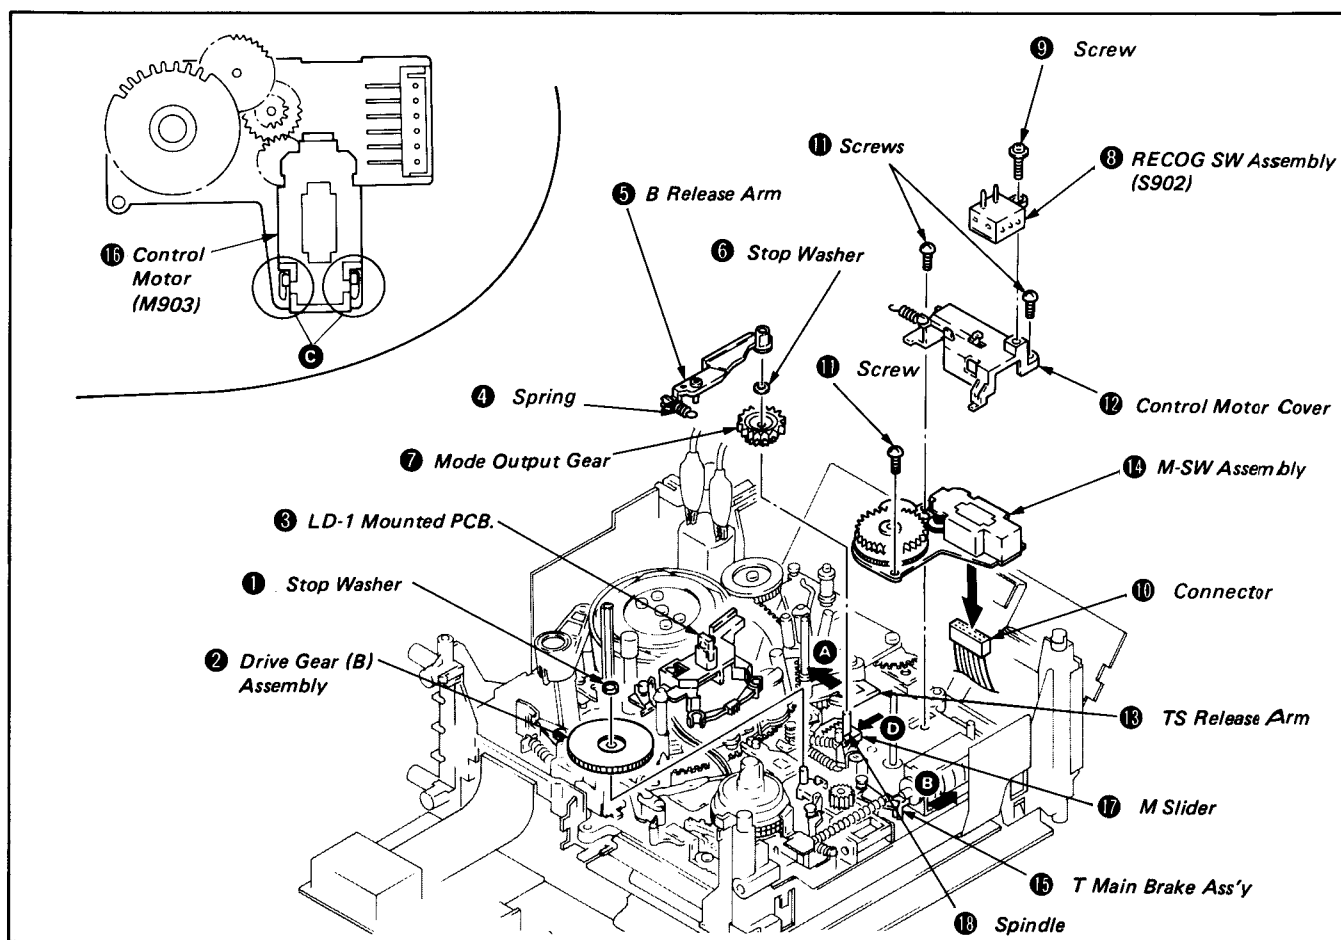
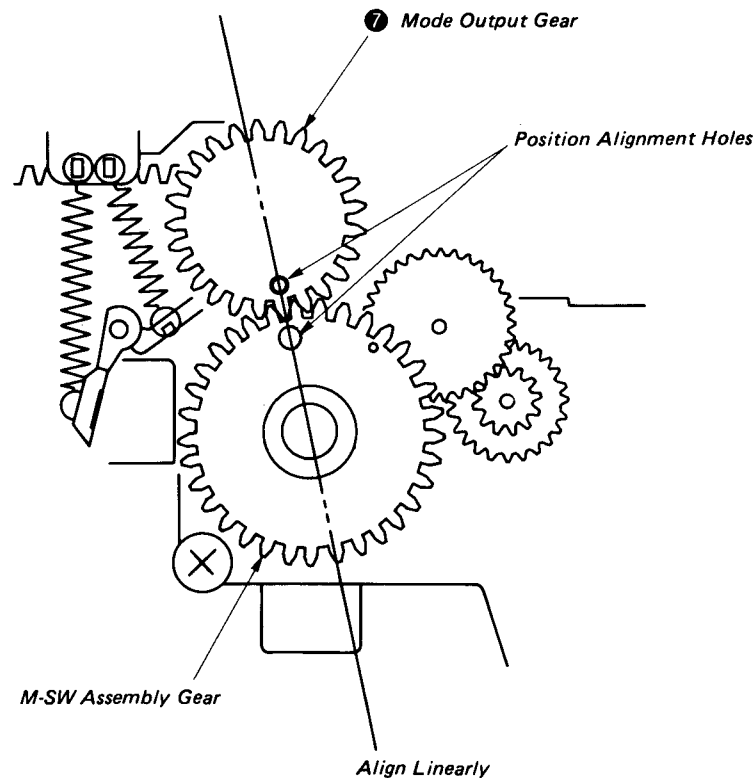

Fig. 8-39.
Fig. 8-40.
- 6) Remove the spring ④ and B release arm assembly ⑤.
- 8) Remove the stop washer ⑥ and mode output gear ⑦.
- 9) Remove soldering from three sections of terminal of RECOG SW assembly ⑧.
- 10) Remove the screw ⑨ and RECOG SW assembly (S902) ⑧.
- 11) Disconnect the connector ⑩.
- 12) Remove three screws ⑪, control motor cover ⑫.
- 13) Push TS release arm ⑬ in the direction of arrow **A** while raising up the M-SW assembly ⑭ and next push the T main brake assembly ⑮ in the direction of arrow **B** and remove the M-SW assembly ⑭.
- 14) Remove solder **C** and the control motor (M903) ⑯. (See Fig. 8-39.)
- 1) Resolder the control motor (M903) ⑩ .
- 2) Remount M-SW assembly ⑭ in the reverse procedure of 13) Removal.
- 3) Remount Control motor cover ⑫ and secure with three screws ⑪ .
- 4) Connect connector ⑩ .
- 5) Solder three sections of terminal of RECOG SW assembly ⑧ .
- 6) Remount RECOG SW assembly ⑧ and tighten the screw ⑨ .
- 8) Check that the M slider ⑰ is moved toward the arrow ⑤ fully.
- 9) Oil half a drop of oil on the spindle ⑱ . (See Fig. 8-39.)
- 10) Remount the mode output gear ⑦ so that the alignment holes are linear. (See Fig. 8-40.)
- 11) Refit the stop washer ⑥ .
- 13) Remount the B release arm assembly ⑤ and rehook the spring ④ .
- 15) Remount the complete LD-1 board ③ .
- 16) Remount the drive gear (B) assembly ② and refit the stop washer ① . (See Fig. 8-39.)